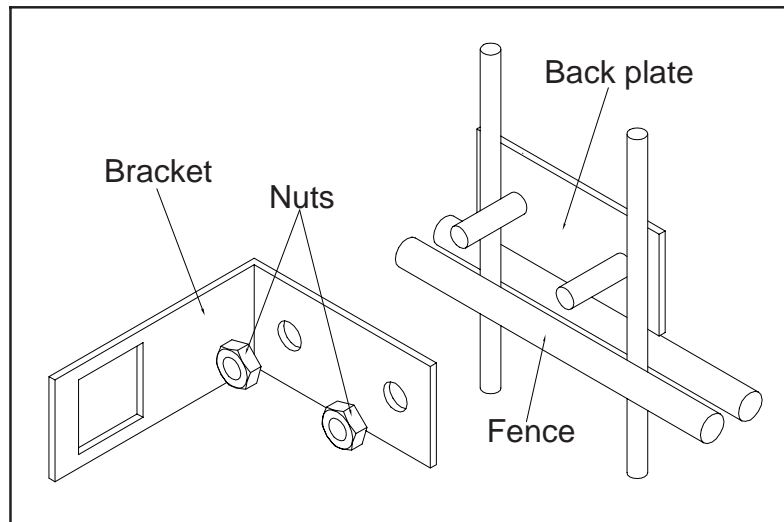

Figure 22
3. Place the bracket onto the plate and fix using the nuts provided. Figure 22 shows an exploded view of the bracket, plate and nuts.